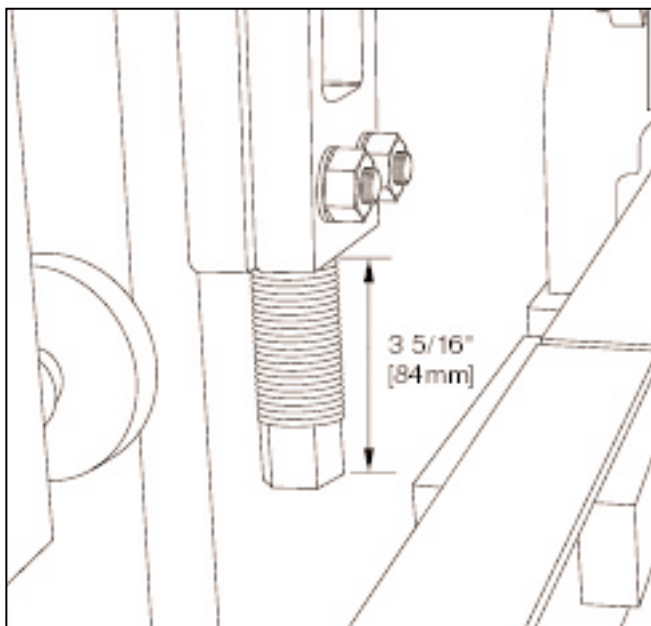

Figure 4.18 ADJUSTING UPPER HEIGHT STOPS
4.2.3 Install the **178mm [7"]** long upper height stops (**part # 25018**) and adjust so that **3 5/16" [84mm]** extend past the bottom of the castings (see figure 4.18).